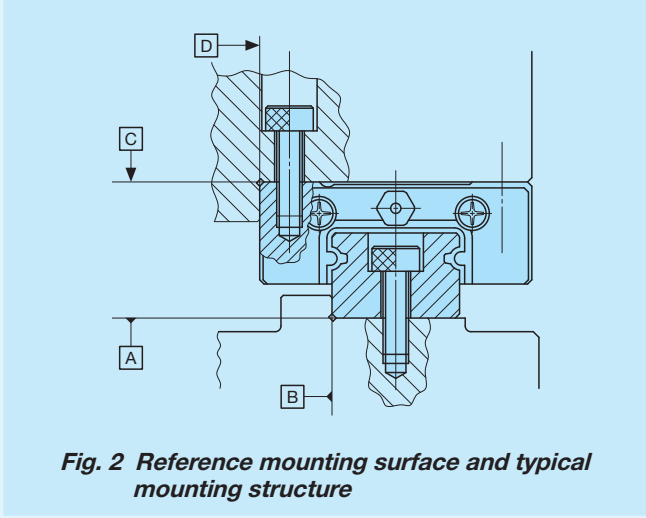

Fig. 2 Reference mounting surface and typical mounting structure
① Mounting surface, reference mounting surface and general mounting structure
When mounting the ML(F) series and LWL(F) series, properly align the reference mounting surfaces B and D (D1 or D2) of the track rail and slide unit with the reference mounting surface of the table and bed and fix them. (See Fig. 2) Reference mounting surfaces B and D (D1 or D2) and mounting surfaces A and C are precisely ground. By machining the mounting surface of the mating member, such as machine or device, to high accuracy and mounting them properly, stable linear motion with high accuracy is obtained.